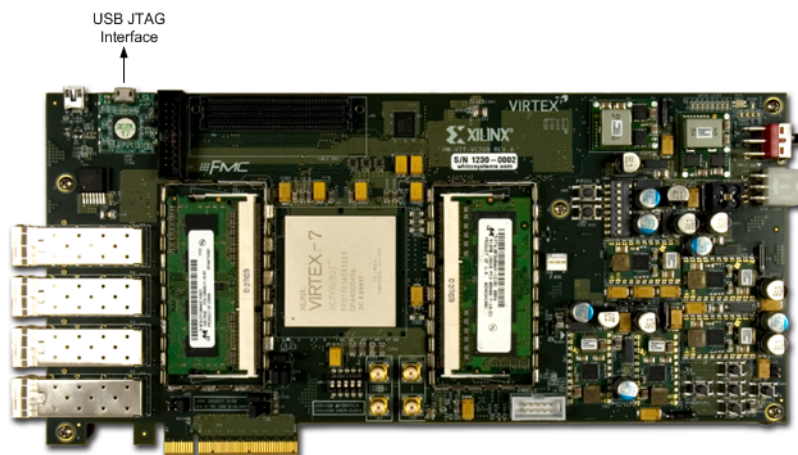

Figure 19: VC709 Board USB JTAG Connector
3. Connect a USB Type-A to Micro-B cable from your local machine to the USB JTAG (Digilent) connector on the VC709 board, as shown in Figure 19.